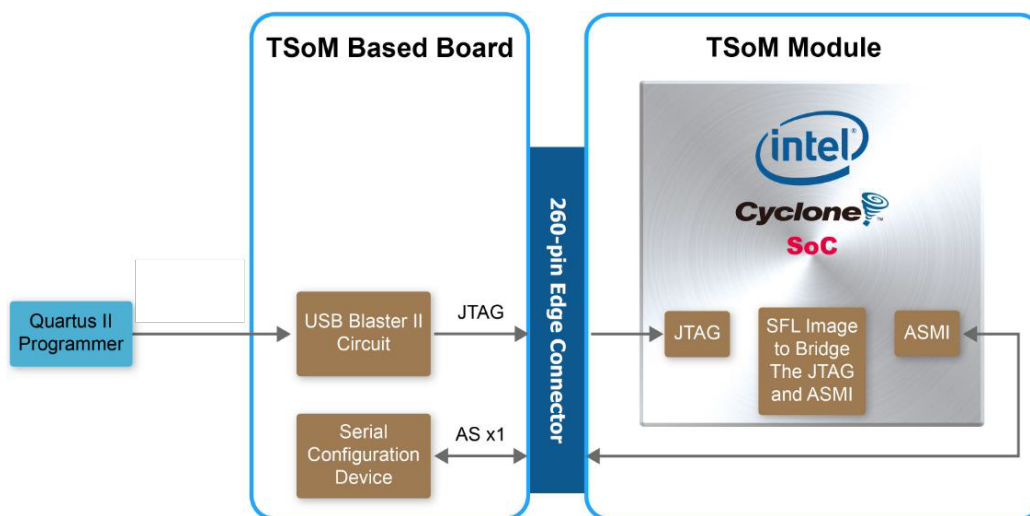

Figure 3-15 Programming a serial configuration device with SFL solution
Users need to use Serial Flash Loader (SFL) to program the serial configuration device via JTAG interface. The FPGA-based SFL is a soft intellectual property (IP) core within the FPGA that bridge the JTAG and Flash interfaces. The SFL Megafunction is available in Quartus II. **Figure 3-15** shows the programming method when adopting SFL solution.